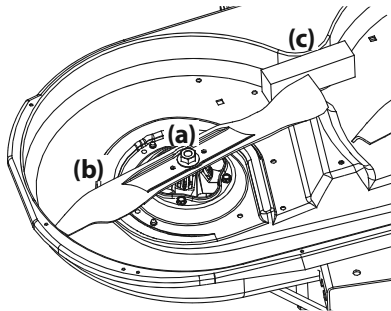

Figure 57
2. Use a $\frac{15}{16}$ " wrench to hold the hex nut on top of the spindle assembly when loosening the hex nut (a) securing the blade (b). A block of wood (c) may be placed between the deck housing and the cutting edge of the blade (b) to help in breaking loose the hex nut (a) securing the blade. See Figure 57.